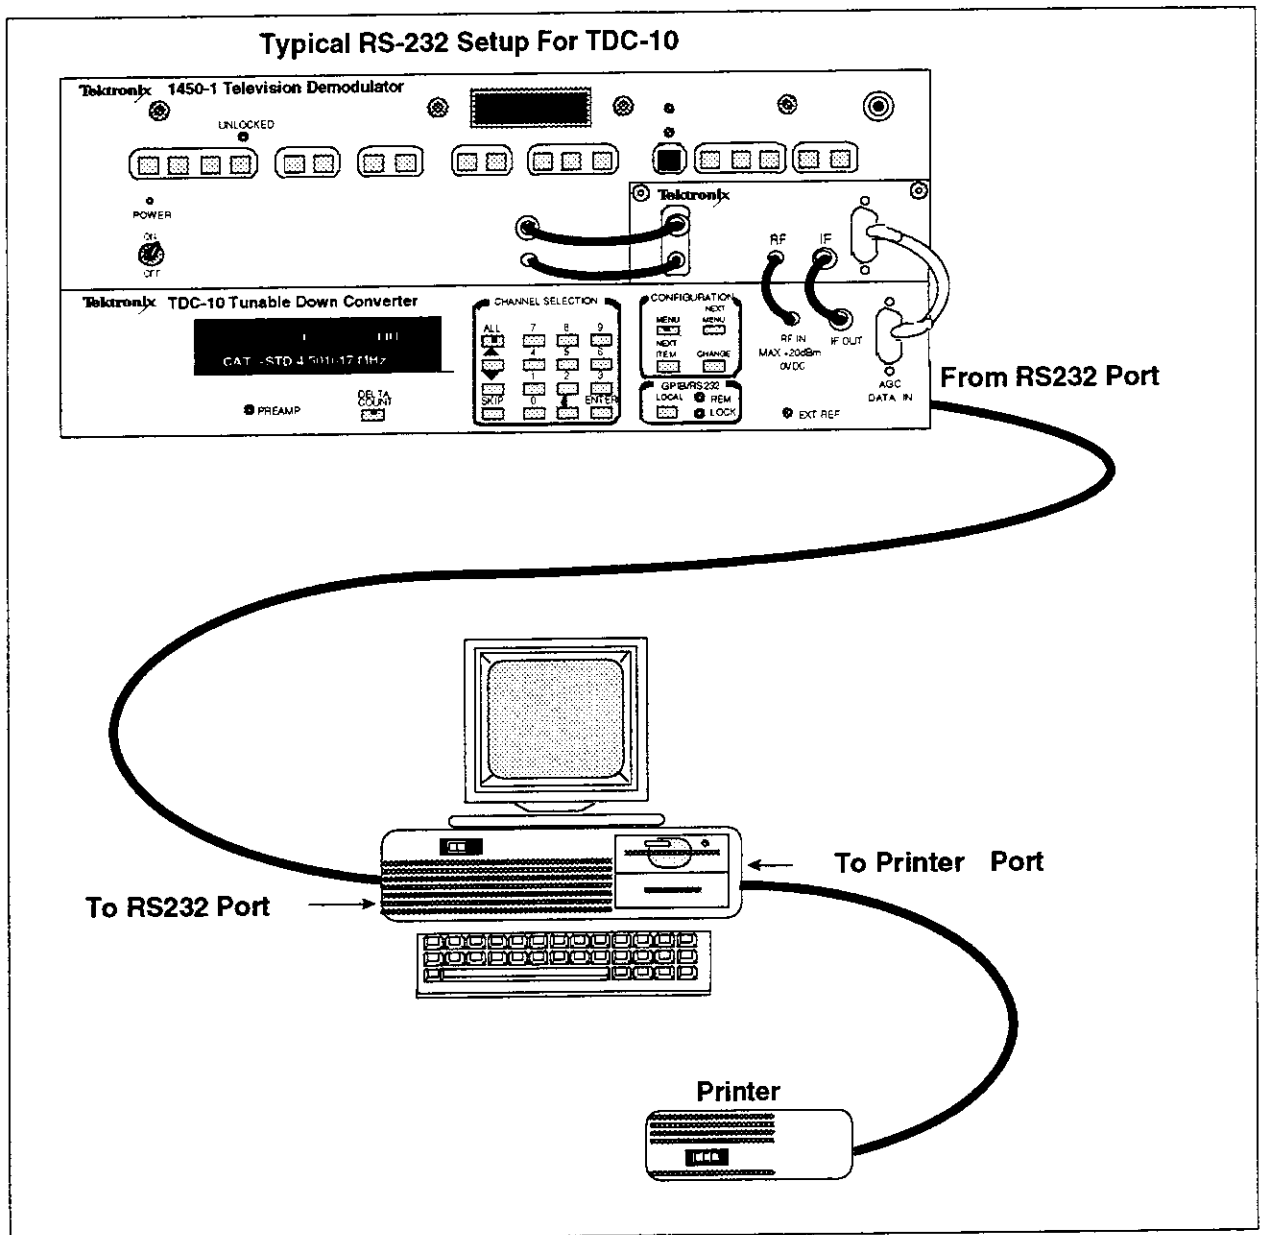

Figure 3-4. RS-232 System Configurations.
Figure 3-4 shows a typical RS-232 system configuration. The illustration shows a computer (PC) controlling the downconverter via the RS-232 interface, with a printer connected to the computer over a Centronics interface.
Only one device (computer, plotter, or printer) can be attached to the downconverter's RS-232 interface. For systems consisting of a controller and the downconverter, you can simply connect one end of the interconnecting cable to each device. Figure 3-4 shows a typical configuration.
Apply power to the TDC-10 and press the MENU button to place the instrument in Menu mode (the green LED on the MENU button lights). Now, press the NEXT MENU button one or more times to display the RS232 menu (see Figure 3-4). This is the first of six menus that you may use to set these RS-232 parameters: